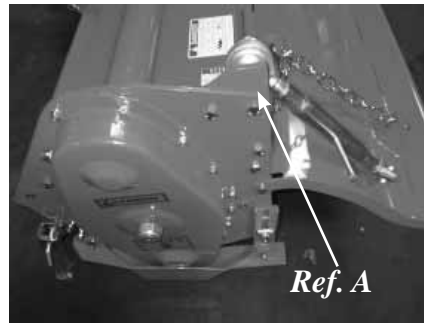

Fig. 2
- STEP 2 -** Mount RH/LH adjustment link support plate (*Ref. A - Fig. 2*) to upper side plate of tiller.